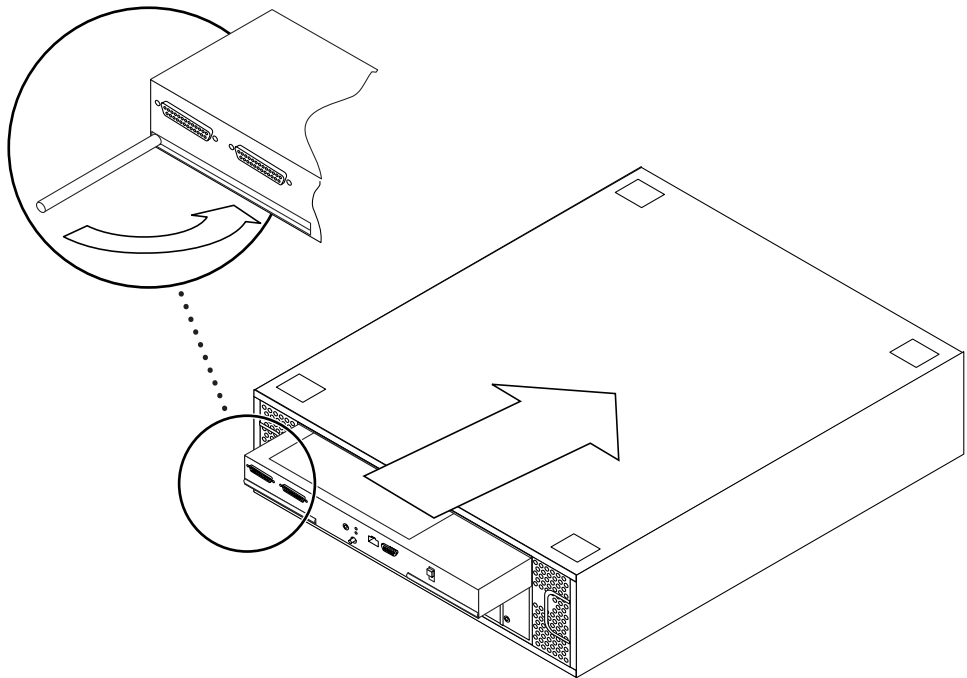

FIGURE A-2 Installing the Netra st A1000 Controller Board
1. **Slide the Netra st A1000 controller board into the slot in the chassis (FIGURE A-2).** The top of the controller board has rails that fit into guide hooks in the chassis.
3. **Push both handles inward until they are flush with the board (FIGURE A-2).**